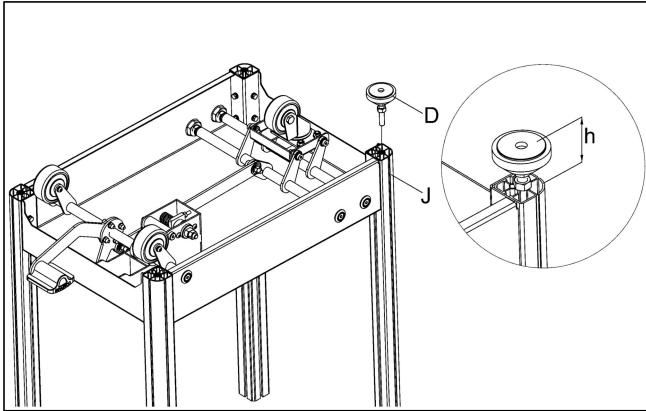

Fig.7
d. Install the foot (D) on the leg (J) and rotate to the minimum or lowest height (h) as indicated in Fig.7. Repeat this step to install the remaining three (D) as shown in **Fig.7**.